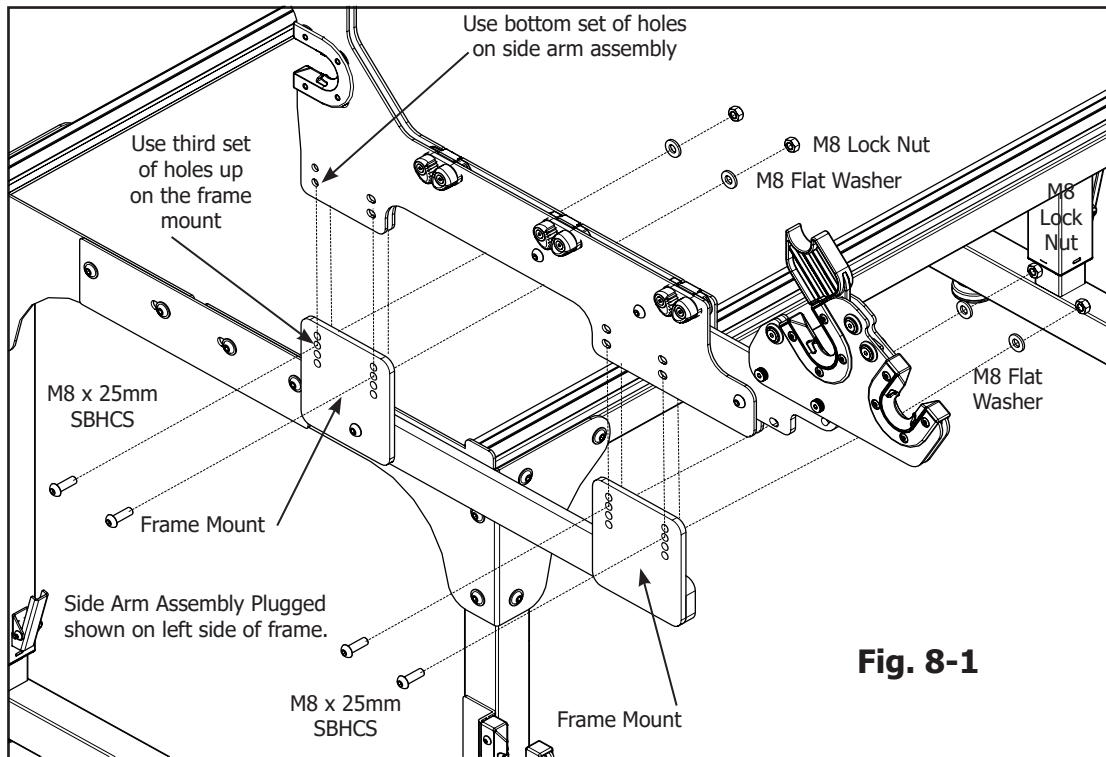

Fig. 8-1
Attach the side arm assembly unplugged to the frame using four (4) M8 x 25mm SBHCS. Place the screws through the bottom set of screw holes on the side arm assembly and into the third set of holes from the bottom of the frame mount. The screws should be threaded from the outside of the frame to the inside of the frame. On the end of each screw, slide a flat washer, followed by a lock nut (as shown in Fig. 8-1).